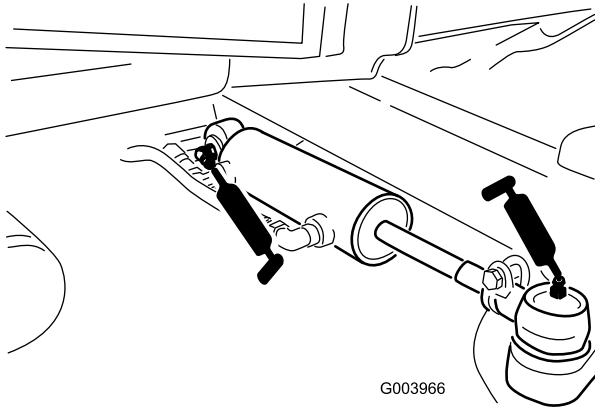

Figure 79
- Steering-cylinder ball joints (2) (Figure 79)